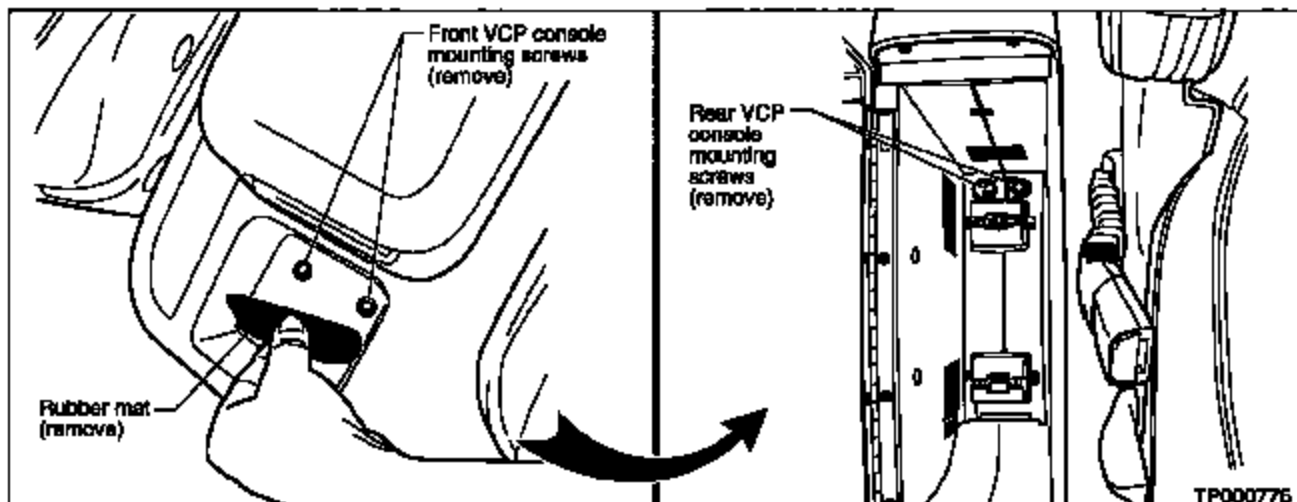

Figure 14
- C. Remove the rubber mat from the front of the NVES console, then remove the four NVES console mounting screws (see Figure 14).